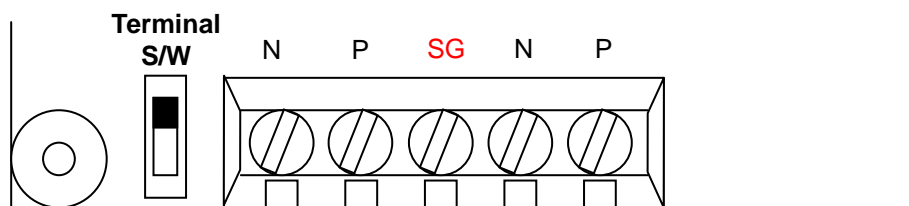

Figure 2. Communication Terminal Block
⑦ MDLV
⑦ Turn Off the inverter power for the connection of converter after option board installation and parameter setting.
⑧ In case of option board used on terminal, terminal switch is turned On according to Figure 2.